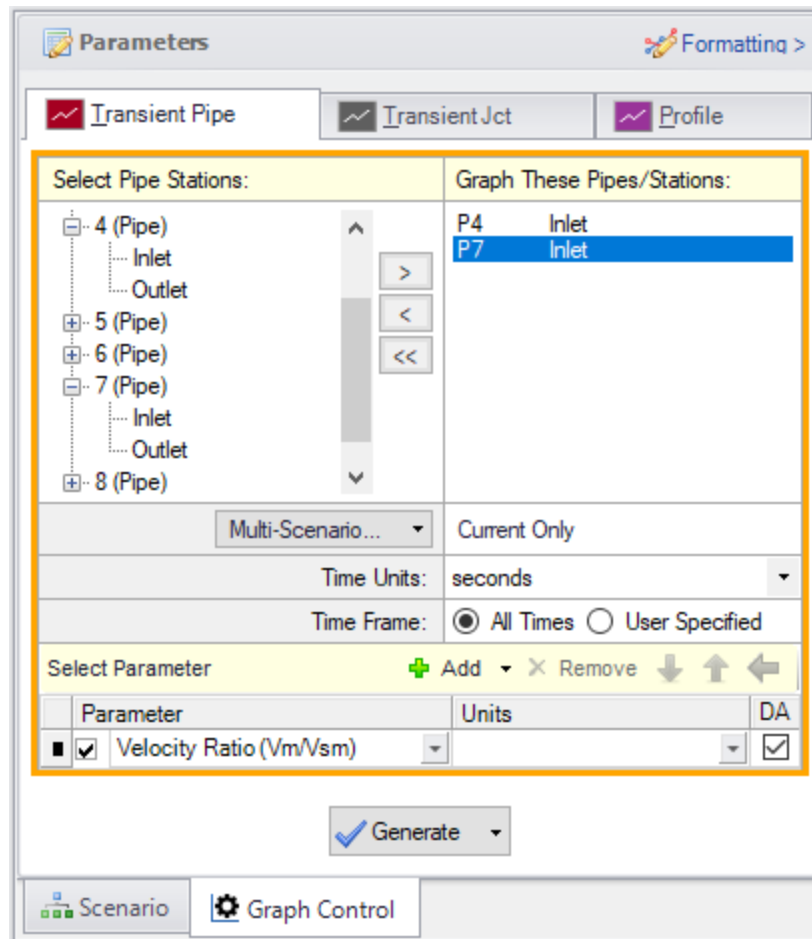

Figure 11: Data selection to view the velocity ratio over time
1. On the Transient Pipe tab, select pipes P4 Inlet and P7 Inlet and add them to the pipe stations to graph (Figure 11). These are the two sloped pipes which have the lowest velocity ratio.